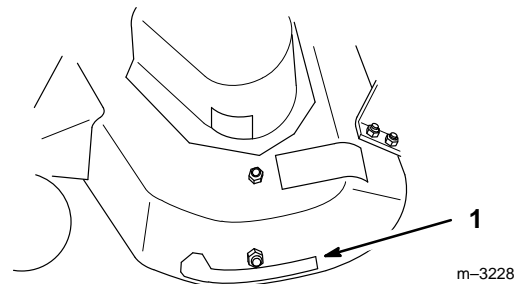

Figure 5
1. Install Recycler[®] decal to left side of mower as shown (Fig. 5).